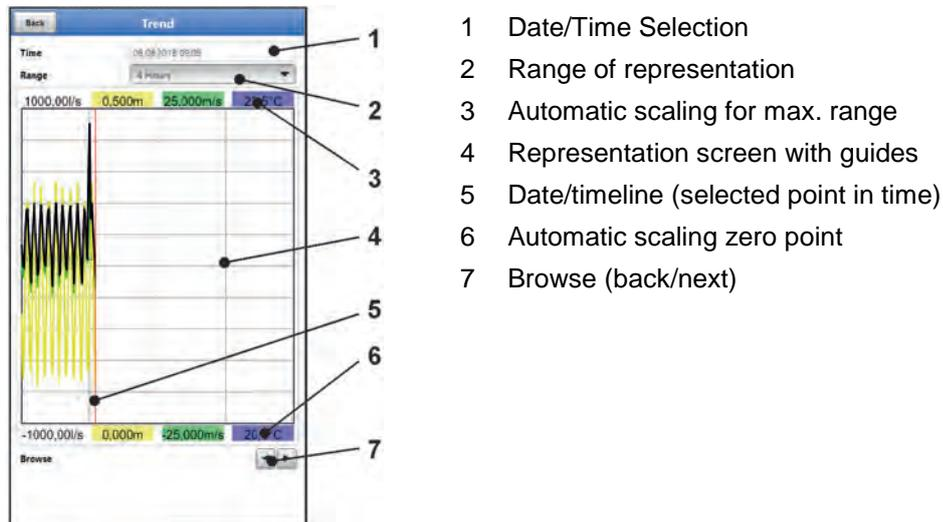
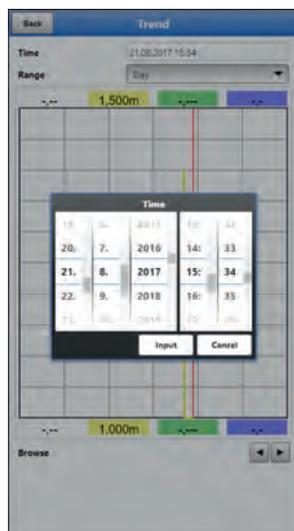

Fig. 39-2 Representation Trend Graph
Fig. 39-3 Selection Date/Time
1. Select the desired range (range of representation; Fig. 39-2 Pos. 2). The selected range is displayed. During the display, there is no automatic updating of the measurement data (the current measurement data is shown in the lower third of the main screen).
2. If necessary, use the arrows (Fig. 39-2 Pos. 7) to scroll forwards and backwards with the same basic display setting.
When the Trend menu is opened, the current date and time are displayed. If historical measurement data or a specific point in time is to be displayed, this can be set via the date/time selection (Fig. 39-2 Pos. 1). The selection mask shown below opens here (Fig. 39-3). If a start date is selected, (depending on the range set) the measurement data is shown in the display area below.